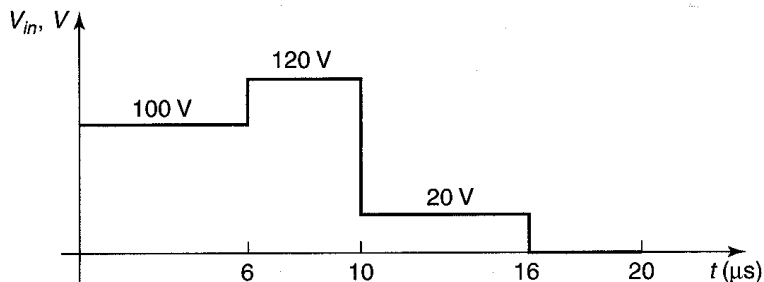

Figure P6.2.13 Problem 6.2.13.
6.2.13. A time-domain reflectometer (TDR) is an instrument used to determine properties of transmission lines. In particular, it can be used to detect the locations of imperfections such as breaks in the line. The instrument launches a pulse down the line and records the transit time for that pulse to be reflected at some discontinuity and to return to the line input. Suppose a TDR having a source impedance of $50\ \Omega$ is attached to a $50\text{-}\Omega$ coaxial cable having some unknown length and load resistance. The dielectric of the cable is Teflon ($\epsilon_r = 2.1$). The open-circuit voltage of the TDR is a pulse of duration $10\ \mu\text{s}$. If the recorded voltage at the input to the line is as shown in Fig. P6.2.13, determine (a) the length of the line and (b) the unknown load resistance.